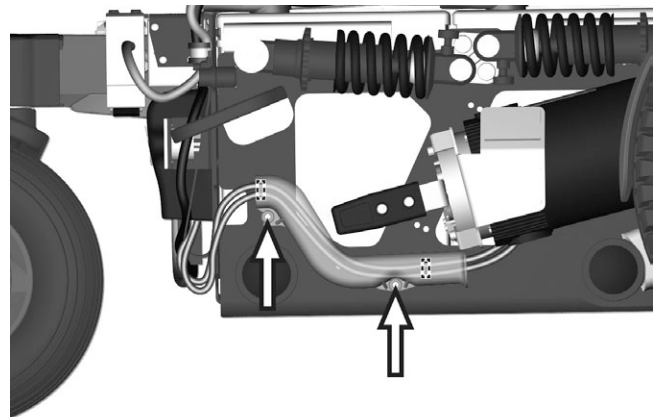

Figure 63. Remove the cable cover.
5. Remove the cable cover by unscrewing the two screws. See fig. 63.